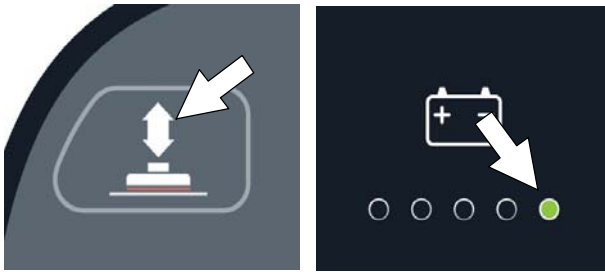
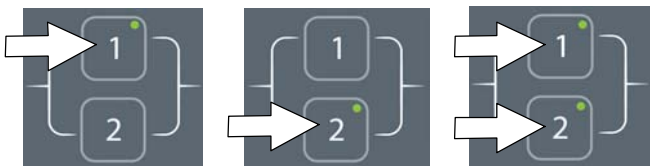

FIG. 166
FIG. 167
2. Press and hold the brush pressure button while turning the key on. Release button when the far right battery discharge indicator LED turns on (Figure 166). After releasing button, the active supervisor control mode will display as described in step 3 (Figure 167),
3. To select or change a supervisor control mode, press and hold the specific zone control button until the LED blinks three times (Figure 167). For lockout mode 3, press and hold zone control buttons 1 and 2 at same time. After selection is made, the LED will turn solid to indicate new mode.